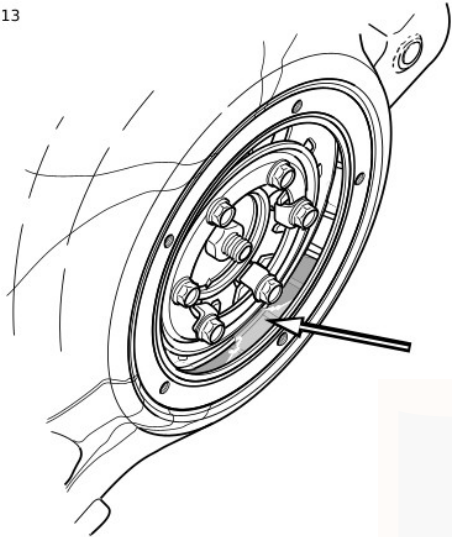

Figure 47. Lubricant Level with Motorcycle Upright
5. See Figure 47. With the vehicle standing upright, not leaning on the jiffy stand, the lubricant level must be visible in the bottom of the chaincase and must not be higher than the diaphragm spring.
3. Remove five screws (4) (with captive washers) to free clutch inspection cover (2) from primary chaincase cover.
6. See Figure 47. With the vehicle standing upright, not leaning on the jiffy stand, the lubricant level must not be higher than the spring.